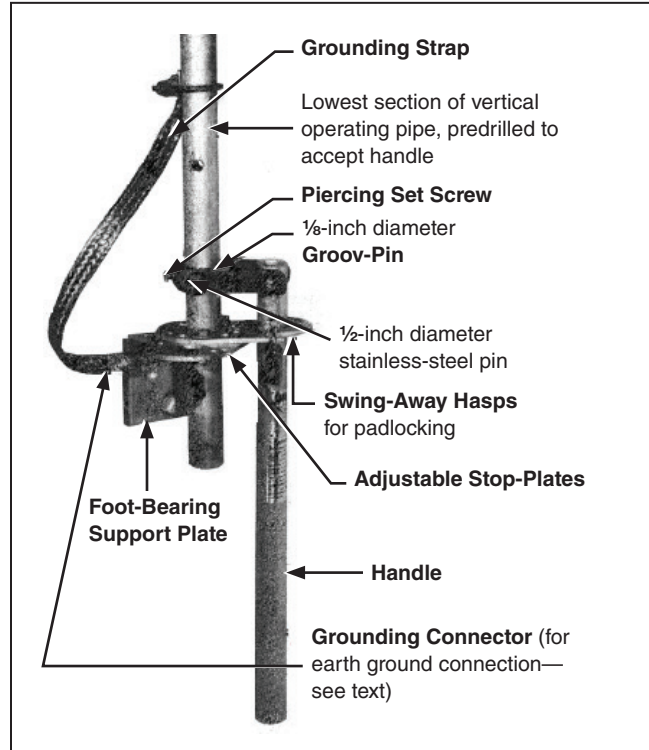

Figure 5. Foot bearing assembly and operating handle assembly.
Using the ½-inch-diameter stainless steel pin furnished, fasten the operating handle assembly to the lowest vertical operating-pipe section. (The pin should engage the through-hole in the vertical operating pipe nearest the position shown on the erection drawing.) Using one of the through-holes provided in the handle flange, secure the ½-inch-diameter pin to the handle with the ⅛-inch-diameter Groov-Pin provided. Tighten the piercing set screw on the operating handle assembly, piercing the pipe, and continue turning until a firm resistance is felt. See Figure 5.
STEP 6. Loosen the bolts which secure the adjustable stop-plates to the foot-bearing support plate. See Figure 5 on page 12. Place the switch in the fully **Open** position and adjust the Open-position stop-plate so the handle, when lowered, fits into the Open-position slot. Mark, on the support plate, the location of the Open-position stop-plate.